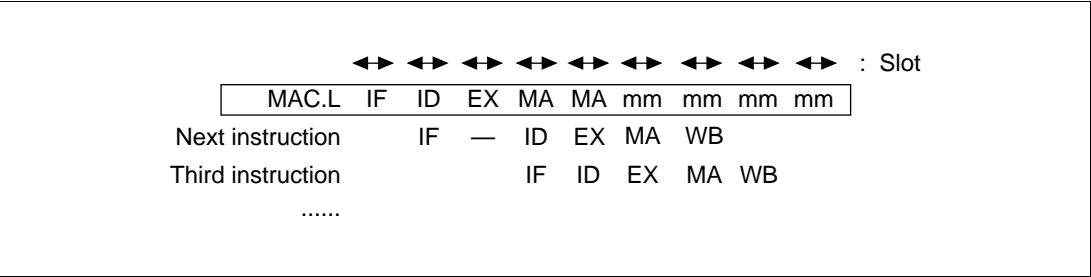

Figure 7.43 Multiply/Accumulate Instruction Pipeline
Operation: The pipeline has nine stages: IF, ID, EX, MA, MA, mm, mm, mm, and mm (figure 7.43). The second MA reads the memory and accesses the multiplier. The mm indicates that the multiplier is operating. The mm operates for four cycles after the final MA ends, regardless of a slot. The ID of the instruction after the MAC.L instruction is stalled for one slot. The two MAs of the MAC.L instruction, when they contend with IF, split the slots as described in Section 7.4, *Contention Between Instruction Fetch (IF) and Memory Access (MA)*.